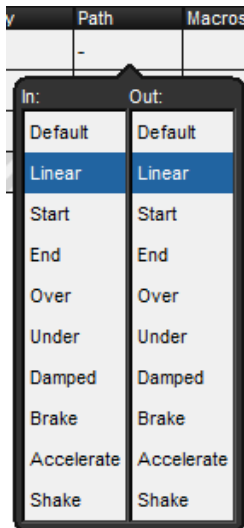

Figure 13.3. Selecting a Path in a Cuelist Window
2. Choose a path from the displayed list; see *Figure 13.3, "Selecting a Path in a Cuelist Window"*.